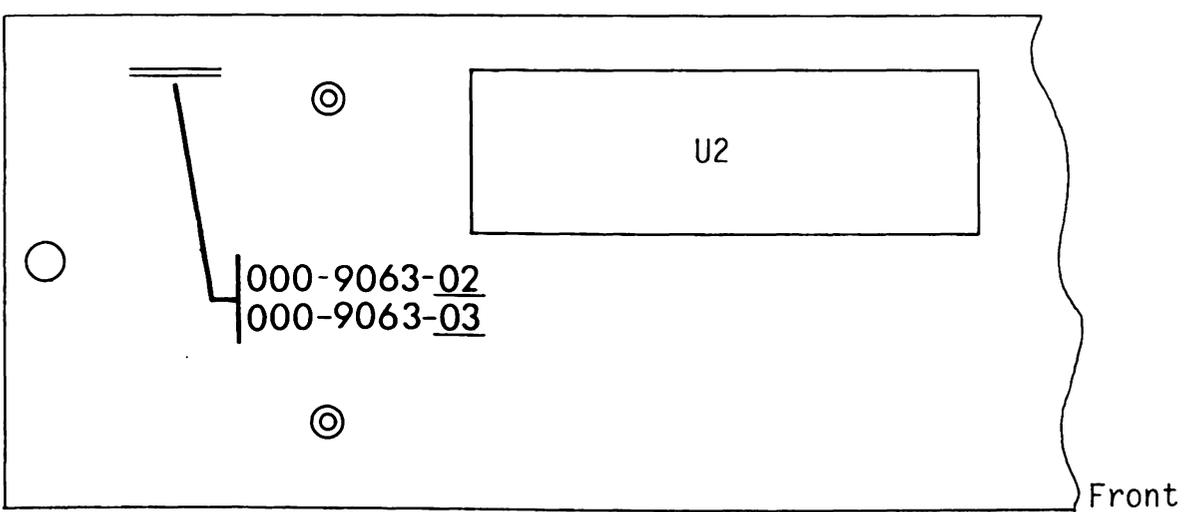

Figure 9 - Digitizer Board
- 1. Locate the Digitizer board part number as illustrated in Figure 9